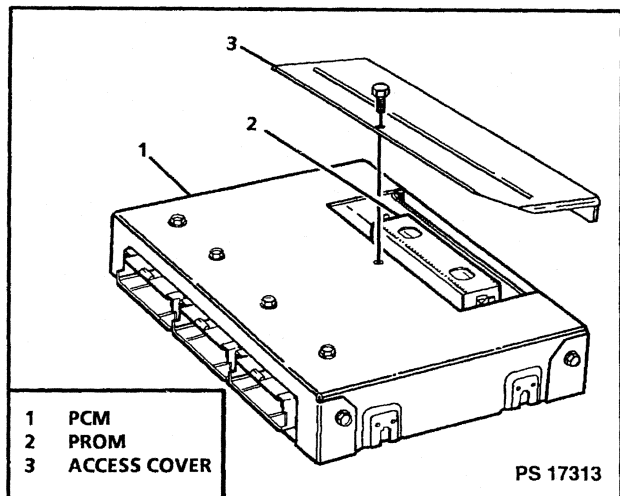

Figure 3-27 - PCM and PROM
5. PCM access cover (Figure 3-27).